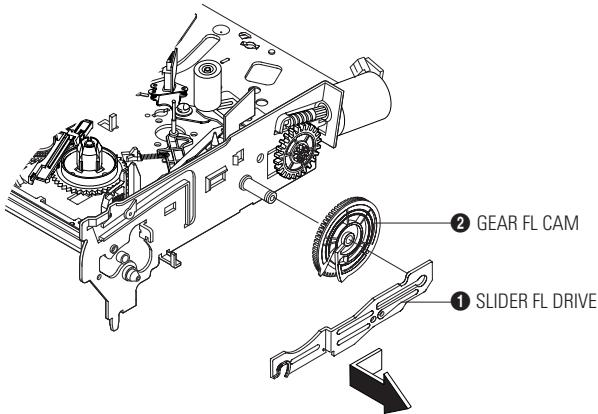

Fig. 3-6 Slider FL Drive Removal
- 1) Pull the Slider FL Drive ① to the front direction.
- 2) Remove the Slider FL Drive ① in the direction of arrow. (Refer to Fig. 3-6)
- 3) Remove the Gear FL cam ②.
**Note :** When reinstalling be sure to reassemble Slider FL drive ① after you insert the Boss of Lever FL ARM-R in Groove of Slider Fl drive ①.
**Assembly :** Align the Gear FL Cam ① with the Gear worm wheel Post as shown drawing. (Refer to Timing point)